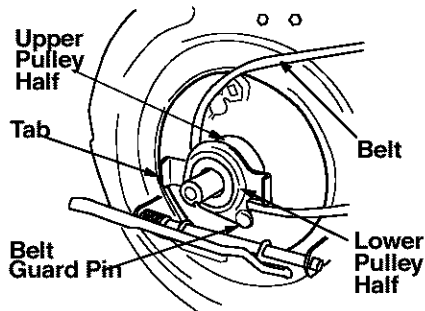

Figure 26
- Place the belt between the two pulley halves on the crankshaft. Make sure to route the belt inside the belt guard pin. See Figure 26.